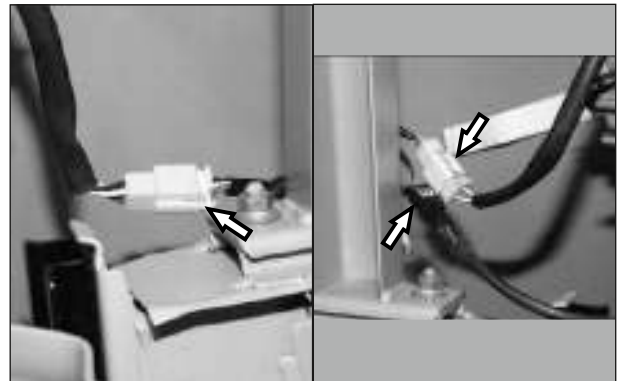

Fig. 5.98
- Disconnect rear combination lamp LH coupler from wiring harness rear. (Fig. 5.98)
- Disconnect rear combination lamp RH coupler and lamp assembly license plate coupler from wiring harness rear. (Fig. 5.98)